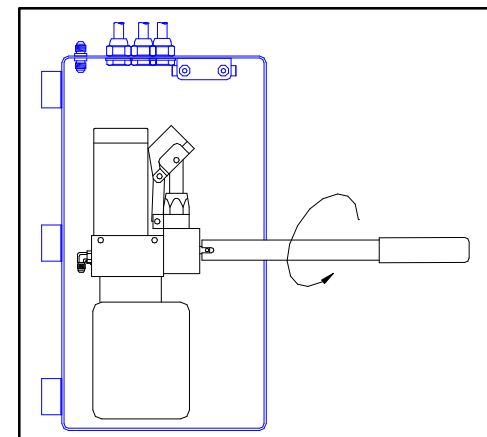

FIGURE 2-8: PLATFORM MANUAL LOWERING
- Refer to **Figure 2-8**. To lower the platform, insert the handle extension onto the pump release valve, and slowly twist the handle 1/4-turn **COUNTER-CLOCKWISE** until the platform begins to lower. Allow the platform to lower to the desired position.